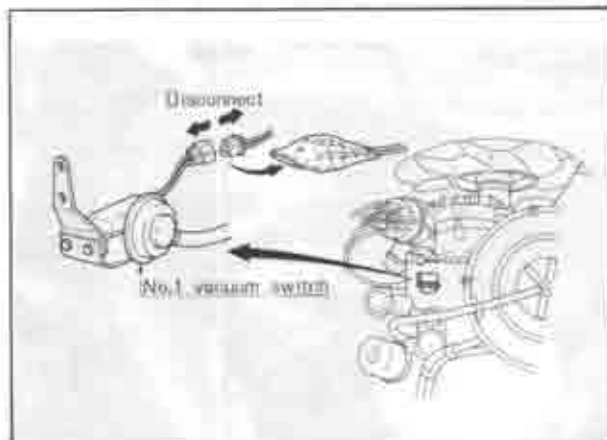

Fig. 4-35 Disconnecting No.1 vacuum switch coupler
2. Connect the coupler of the No.1 vacuum switch. (for automatic transmission models only) (See Fig. 4-35)